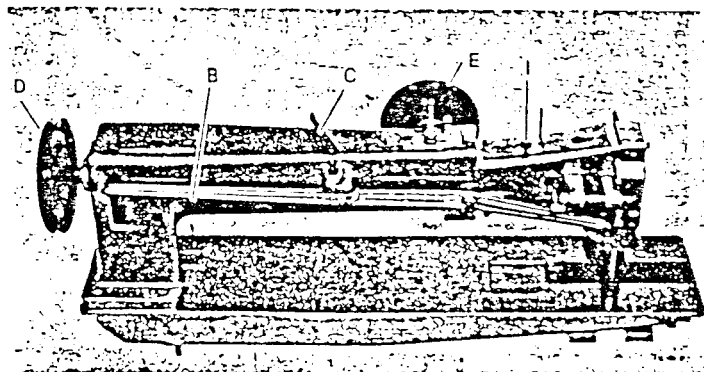

Fig. 31
1. Turn the machine pulley or hand wheel (Fig. 31 D & E) until the top of the opener is located at the distance from the needle plate.
2. In this position, adjust it so that the clearance between the inside edge of the opener (A) and the top of the hook is about 0.3 - 0.8 mm.
3. Securely tighten the screw (2) after finished adjustment.